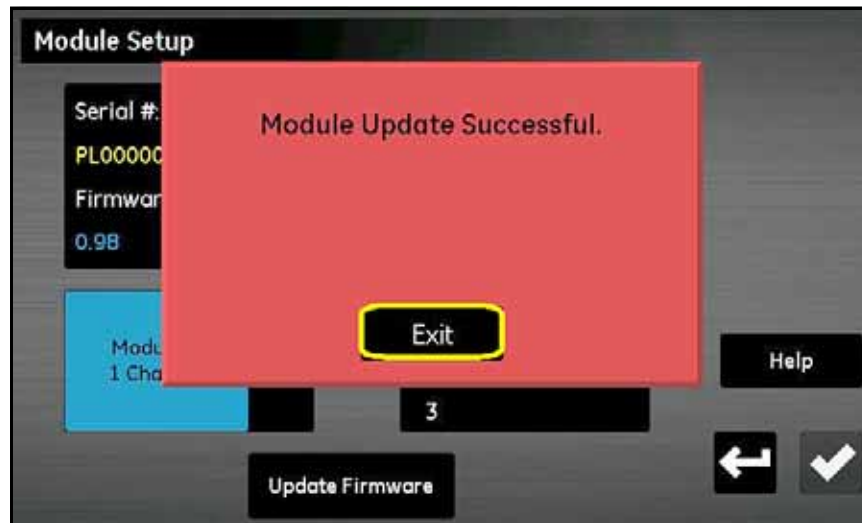

Figure 87: Installation Successful
7. After the update is complete (see *Figure 87* below), the meter prompts you to exit. Tap the Exit button.